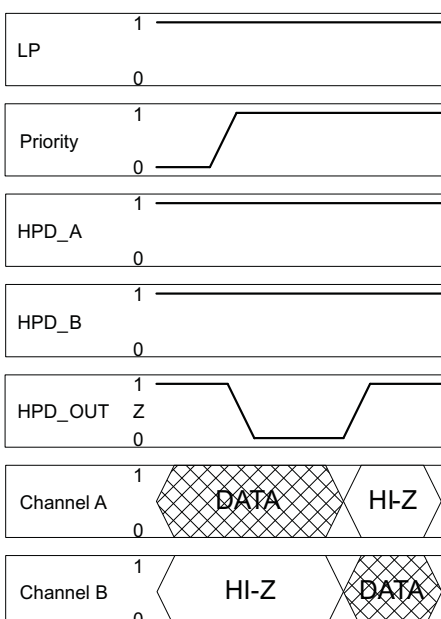

**Figure 44.**
- Case two: In this case the HPD input that is initially HIGH is not the port with priority. When the HPD input of the port that has priority goes high, the HPD output is forced LOW for some time in order to simulate an unplug event to the source device. The duration of this LOW output is defined as  $t_{T2(HPD)}$ . If the HPD input of the port with priority pulses LOW for a short duration while the  $t_{T2(HPD)}$  timer is counting down, the timer is reset. Once this time has passed the switch switches to the port with priority and the output HPD once again follows the state of the newly selected channel's HPD input (see Figure 44).